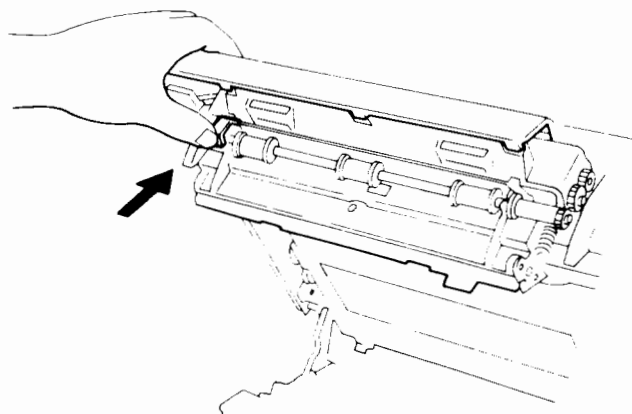

Figure 8-2 Opening the heat roller unit
3. If the jam occurs in the heat roller unit, open the unit by pressing the latch at the left front side as shown in Figure 8-2. Remove the jammed paper.